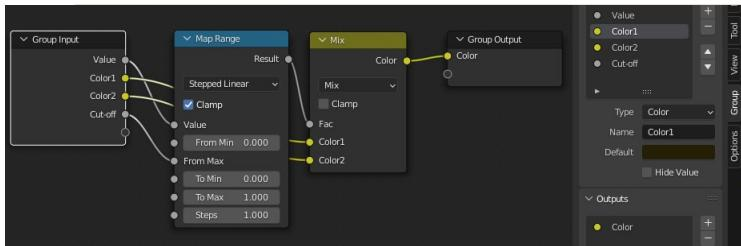

Figure 13-4 The Nodes inside the `cell_shader_stop` node group.
5. For the general purpose version of this group you need to add an input to control the cut-off point. In the sidebar select the Node tab then add a new input by clicking on the relevant **+**. Change the name of the new input to Cut-off, the default to **0.5**, Min to **0.0** and Max to **1.0**. Connect the Cut-off input to the From Max input of the map range node, set the From Min to **0.0** and the Steps to **1.0**. The layout of nodes within the group is shown in Figure 13-4.